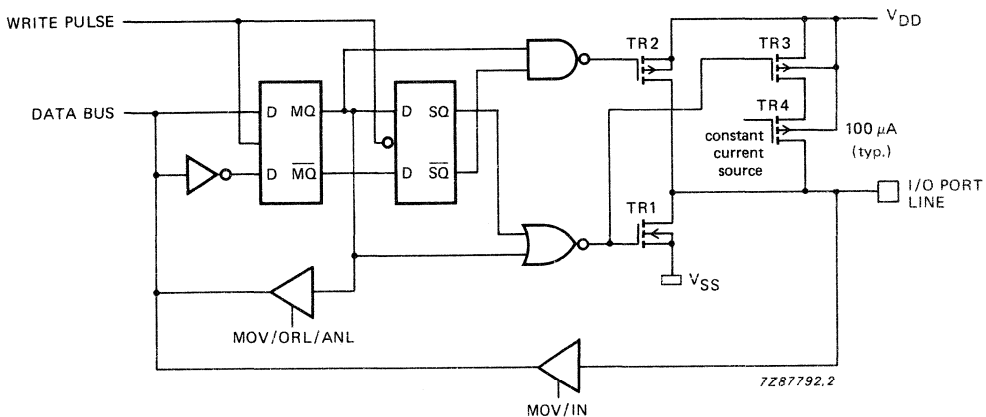

Fig. 12 Standard output with switched pull-up current source.
Fig. 12 shows the quasi-bidirectional I/O interface with push-pull output and switched pull-up current source.
- Option 1 – STANDARD PORT; quasi-bidirectional I/O with switched pull-up current source of  $100\ \mu\text{A}$  (typ.) and P-channel booster transistor TR2. TR2 is only active during 1 clock cycle (Fig. 12).